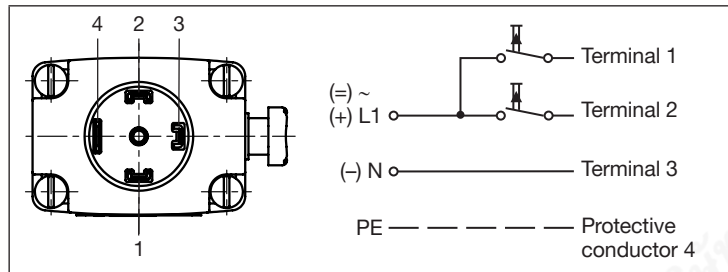

Fig. 1: Circuit diagram connection of pulse valve
- Connect **pulse valves** (variable code CF 02) as shown in “Fig. 1”. Pulse on Terminal 1 closes the valve, pulse on Terminal 2 opens the valve.